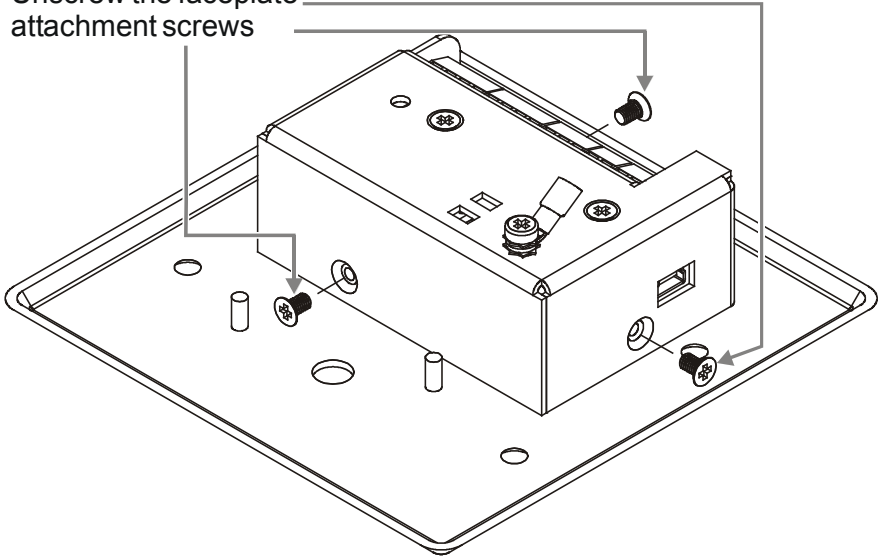

Figure 12: Unscrewing the Faceplate Attachment Screws
1. Unscrew the faceplate attachment screws using a screwdriver, as Figure 12 illustrates:
1. Unscrew the faceplate attachment screws, using a screwdriver, as Figure 12 illustrates (see above).